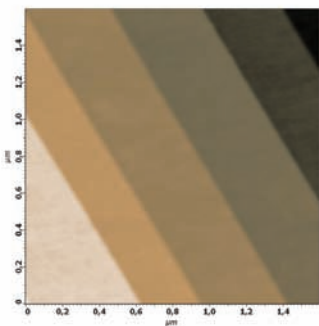

Fig. 2. AFM image 1.6x1.6 μm
■ After obtaining good quality AFM-image of the sample surface with several steps use the software filter to flatten image so that every single step becomes horizontal (Fig. 2). Choose the area on AFM-image for obtaining height spectra by using possibilities of AFM software. Please, choose the area with maximum number of steps for better statistics. After obtaining height spectra with peaks corresponding to each step, measure the interpeak distances. Note that distances between neighboring peaks may vary a little (see Fig. 3), so it is useful to average distances between peaks by measuring distance between far standing peaks and dividing the measured value by the number of included interpeak distances (A-A on Fig. 3). Change the scanner calibrating constant while average interpeak distance becomes 1.5 nm.